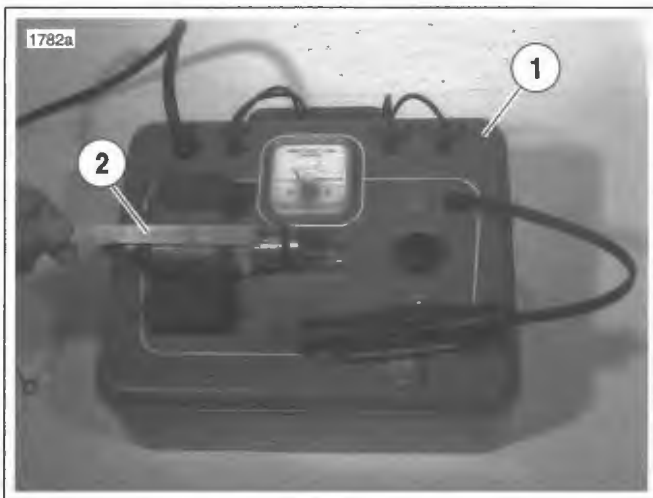
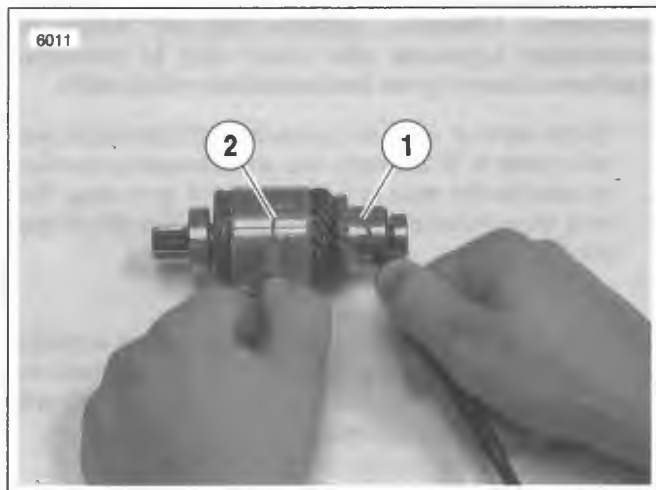

Figure 5-10. Shorted Armature Test Using Growler
Figure 5-11. Grounded Armature Test
10. See Figure 5-10. Check for **SHORTED ARMATURE** with a growler.
- Place armature on growler (1).
- Hold a thin steel strip (2) (hacksaw blade) against armature core and slowly turn armature.
11. See Figure 5-11. Check for a **GROUND**ED ARMATURE with an ohmmeter or continuity tester.
- Touch one probe to any commutator segment (1).
- Touch the other probe to the armature core (2).